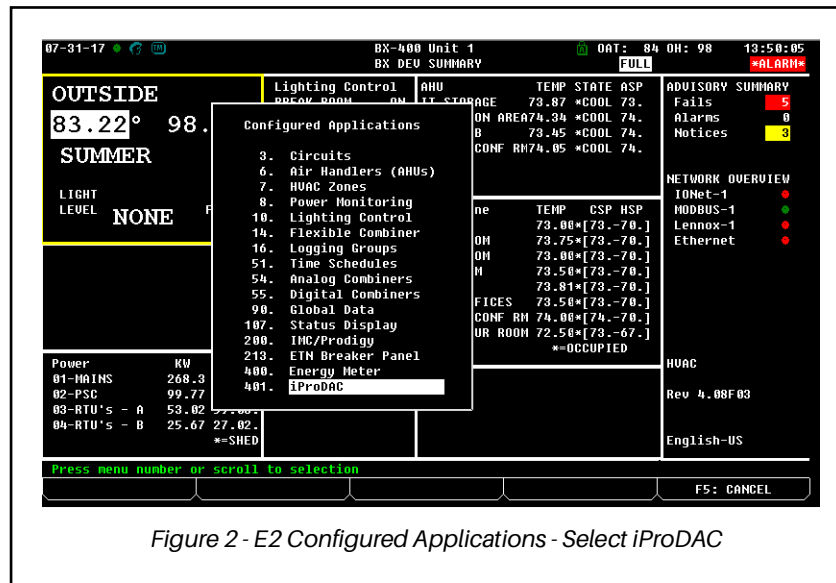

Figure 2 - E2 Configured Applications - Select iProDAC
1. From the E2 Main Menu (select **5 - Configured Applications** (Figure 2).